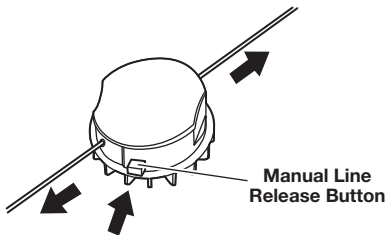

Fig. 14
3. Press and release the manual line release button while gently pulling both lines until they reach the line cutting blade (Fig. 14).